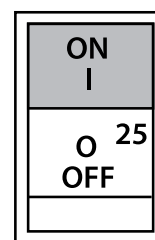

Figure 28. Main Circuit Breaker (ON)
1. Place **main** circuit breaker (Figure 28) in the **ON** position.